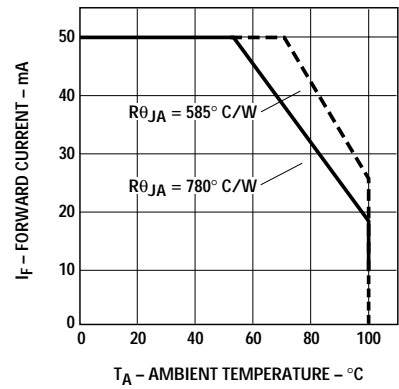

Figure 4. Maximum Forward Current vs. Ambient Temperature. Derating Based on $T_{JMAX} = 130^{\circ}\text{C}$.
1. Derate linearly as shown in Figure 4.